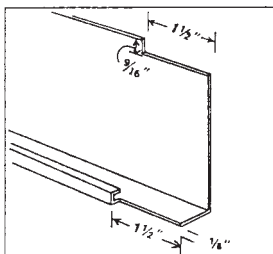

FIG. 39 Trimming Fascia Corner Ends
11.5.1 Trim the fascia cover ends at the corners as in Fig. 39.